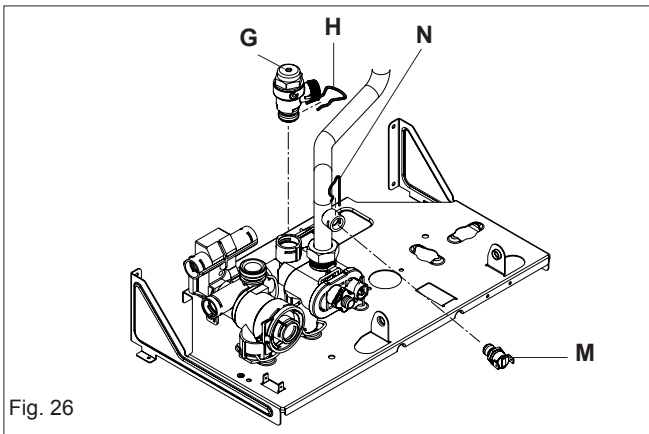

Fig. 26
6.8 WATER PRESSURE SWITCH (fig. 26)